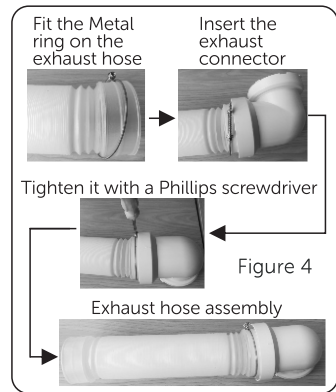

Figure 4
1. Connect hose (figure 4) to the air outlet of the machine by screwing it tight in a clockwise direction.